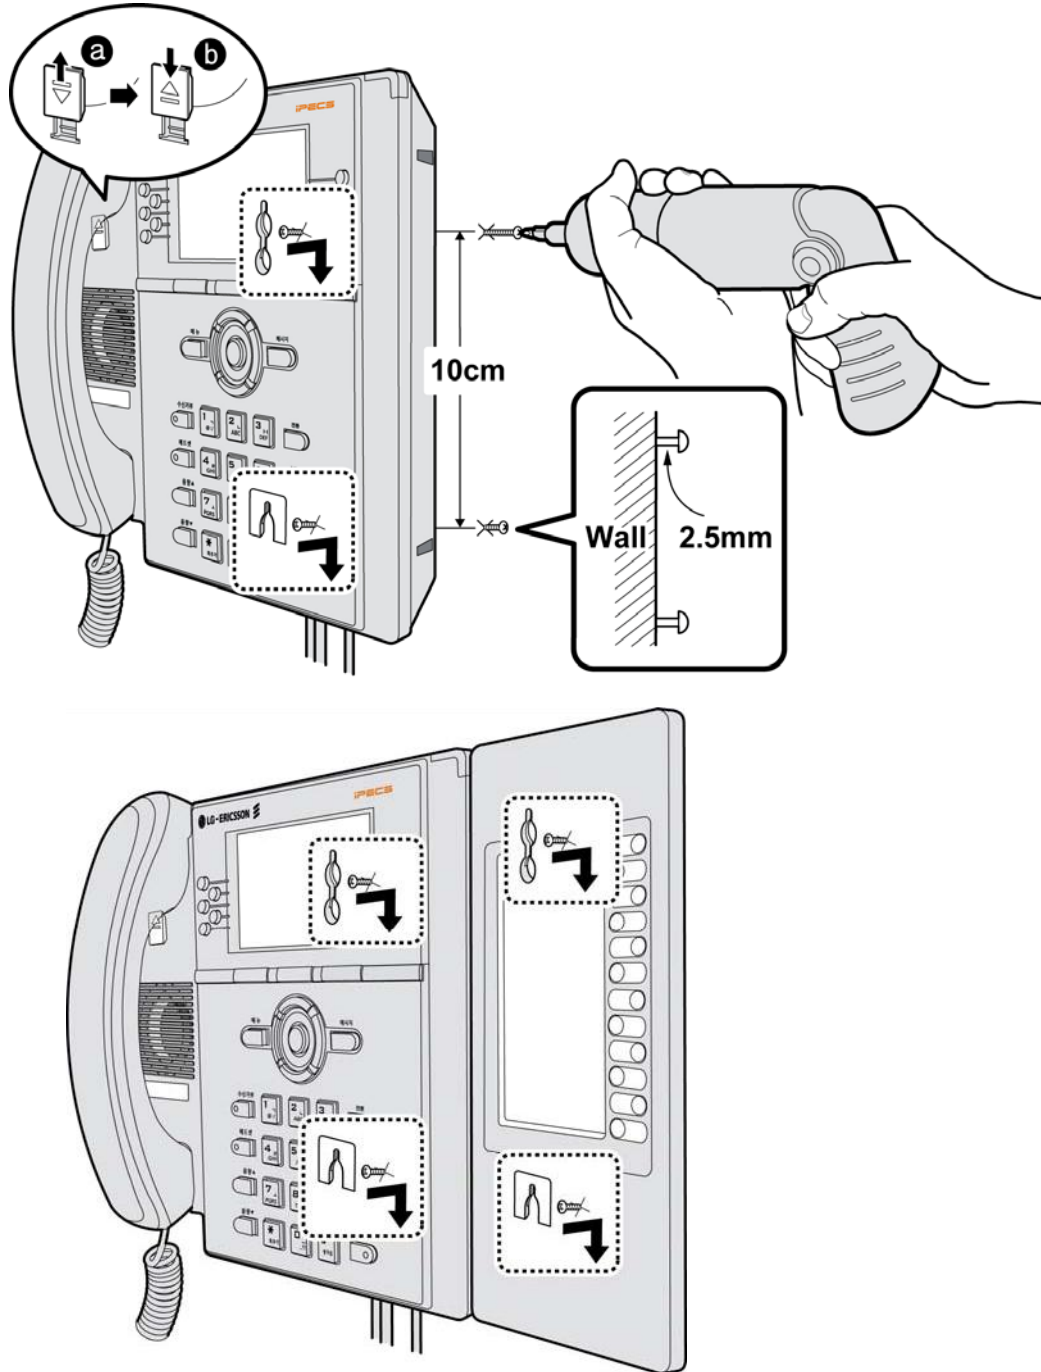

Figure 4.5-1 LIP-8000 Wall Mount Installation
The LIP-8000 series phones incorporate wall mount into the base of the phone housing. Using the instructions below and Figure 4.5-1, wall mount the LIP-8000 phone.
Insert the two (2) anchors into the holes, then insert and tighten the 2 screws leaving about 2.5 mm (1/8-inch) exposed. Refer to Figure 4.5-1.